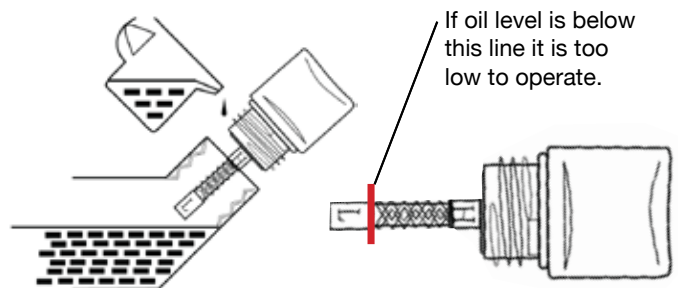

Figure 24 - Checking Oil Level
- **Acceptable Oil Level** – Oil is visible on the crosshatches between the H and L lines on the oil fill plug/dipstick (see Figure 24).
8. Continue to add oil until the oil is at the correct level. See Figure 24.